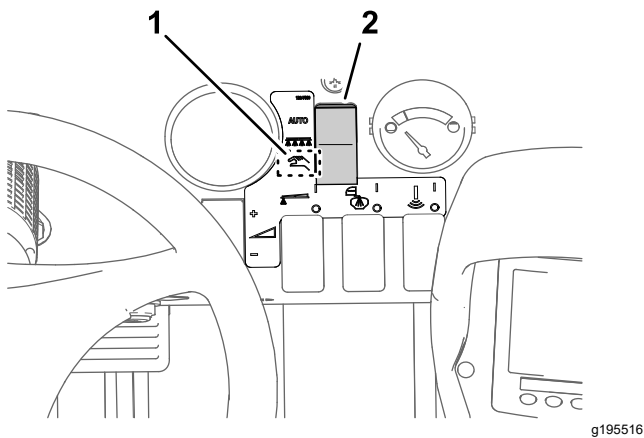

Figure 47
2. Set the sprayer mode button to the Manual Mode (Figure 47).